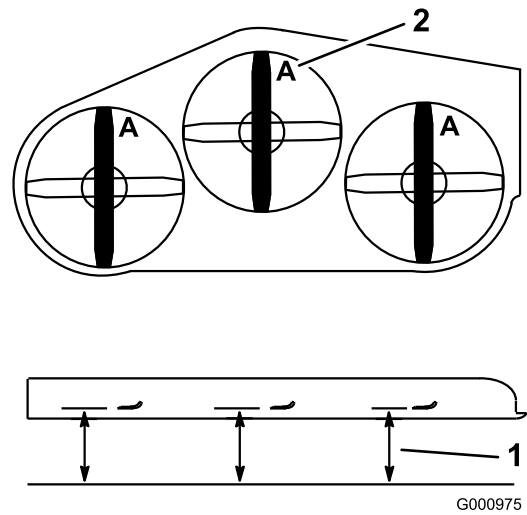

Figure 107
3. Rotate the blades until the ends face forward and backward (Figure 107).
4. Measure from a level surface to the cutting edge, position A, of the blades (Figure 107).